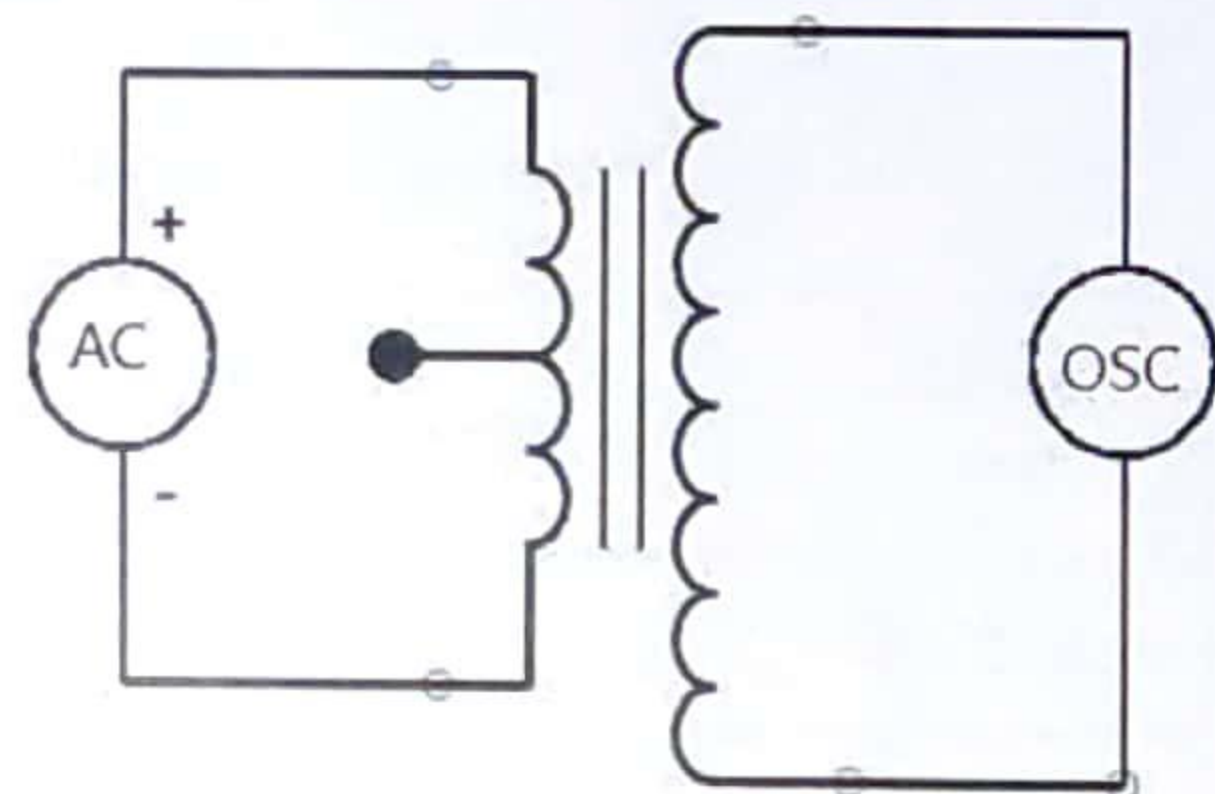

Figure 3
6. Connect the equipment according to the circuit diagram in Figure 3 and repeat the steps above to fill out Table 2.
Table 2 (Use the set up shown in Figure 3)